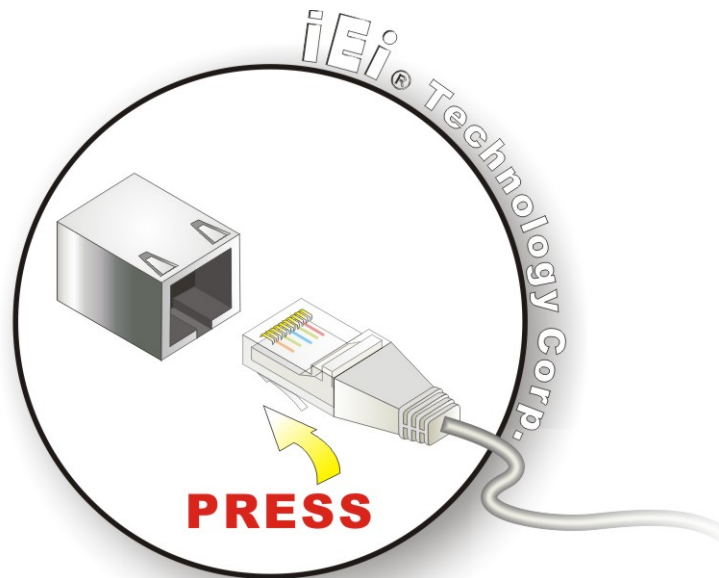

Figure 4-14: LAN Connection
- Step 2: Align the connectors.** Align the RJ-45 connector on the LAN cable with one of the RJ-45 connectors on the KINO-AH611. See **Figure 4-14**.